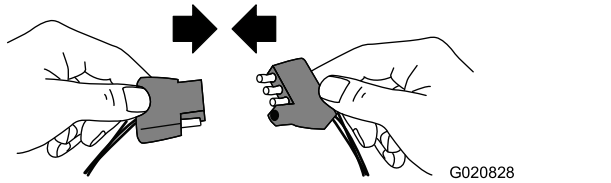

Figure 17
1. Connect the electrical plug of the machine with the electrical plug of the tow vehicle (Figure 17).